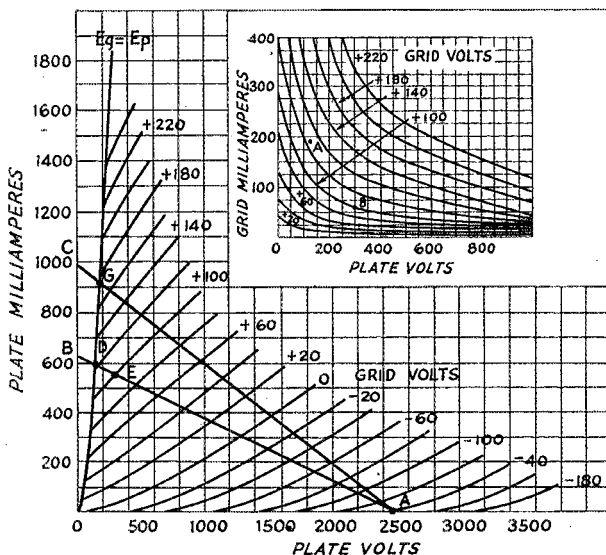

Fig. 1 —  $I_p E_p$  and  $I_g E_p$  characteristic curves for the Amperex HF200 tube upon which calculations discussed in the text are based.
5) The peak grid current per tube is found on the  $I_g E_p$  curves shown in Fig. 1.